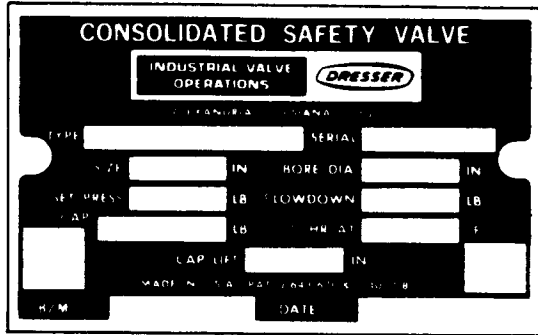

FIGURE 21
2. Center the test gag screw in the exposed end of the SPINDLE and hook the legs of gag under the sides of the YOKE as shown in Figure 21.
In addition, the serial number is stamped on the top edge of the outlet flange. Be sure to include the one or two letters preceding the figures in the serial number. A typical valve nameplate is shown in Figure 21.